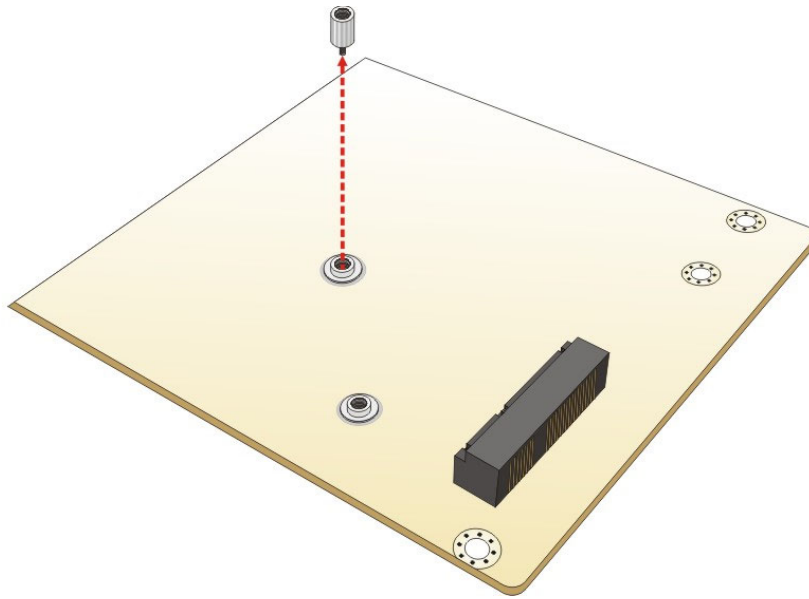

Figure 4-10: Removing the Standoff
Step 3: Remove the standoff. Unscrew and remove the standoff secured on the motherboard as shown in **Figure 4-10**.